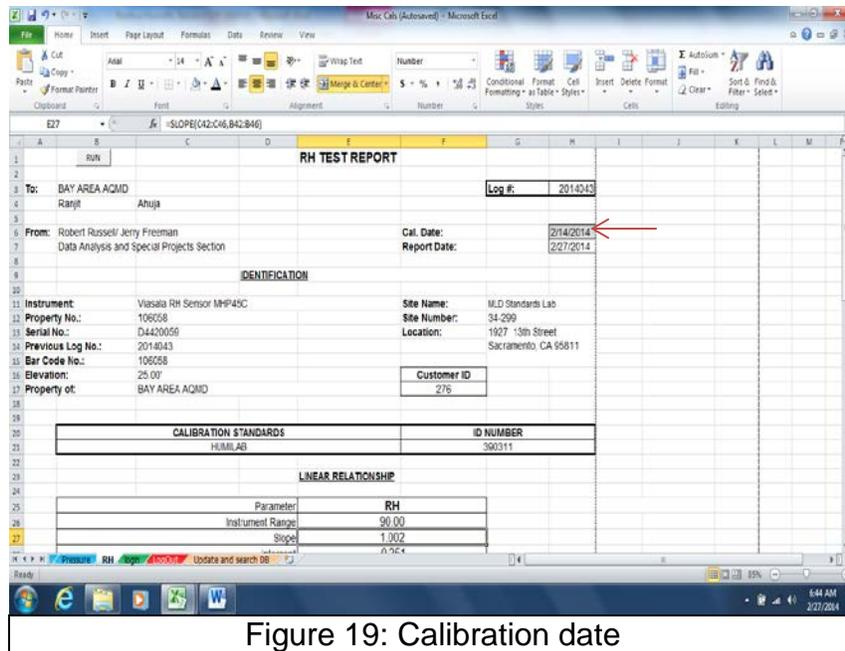

Figure 19: Calibration date
12.12 Enter the calibration date into cell H6. See Figure 19.